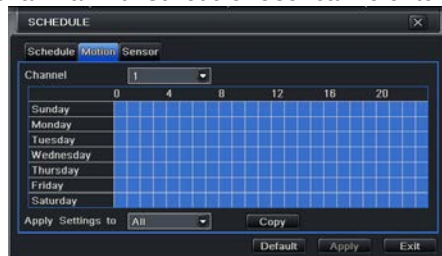

Fig 4.16 Schedule Configuration - Motion
- ② User can apply the schedule setting of certain channel to other or all channels. Just select channel and click "Copy" button.
Step 1: Enter into system configuration → schedule configuration → motion. Refer to Fig 4.16.